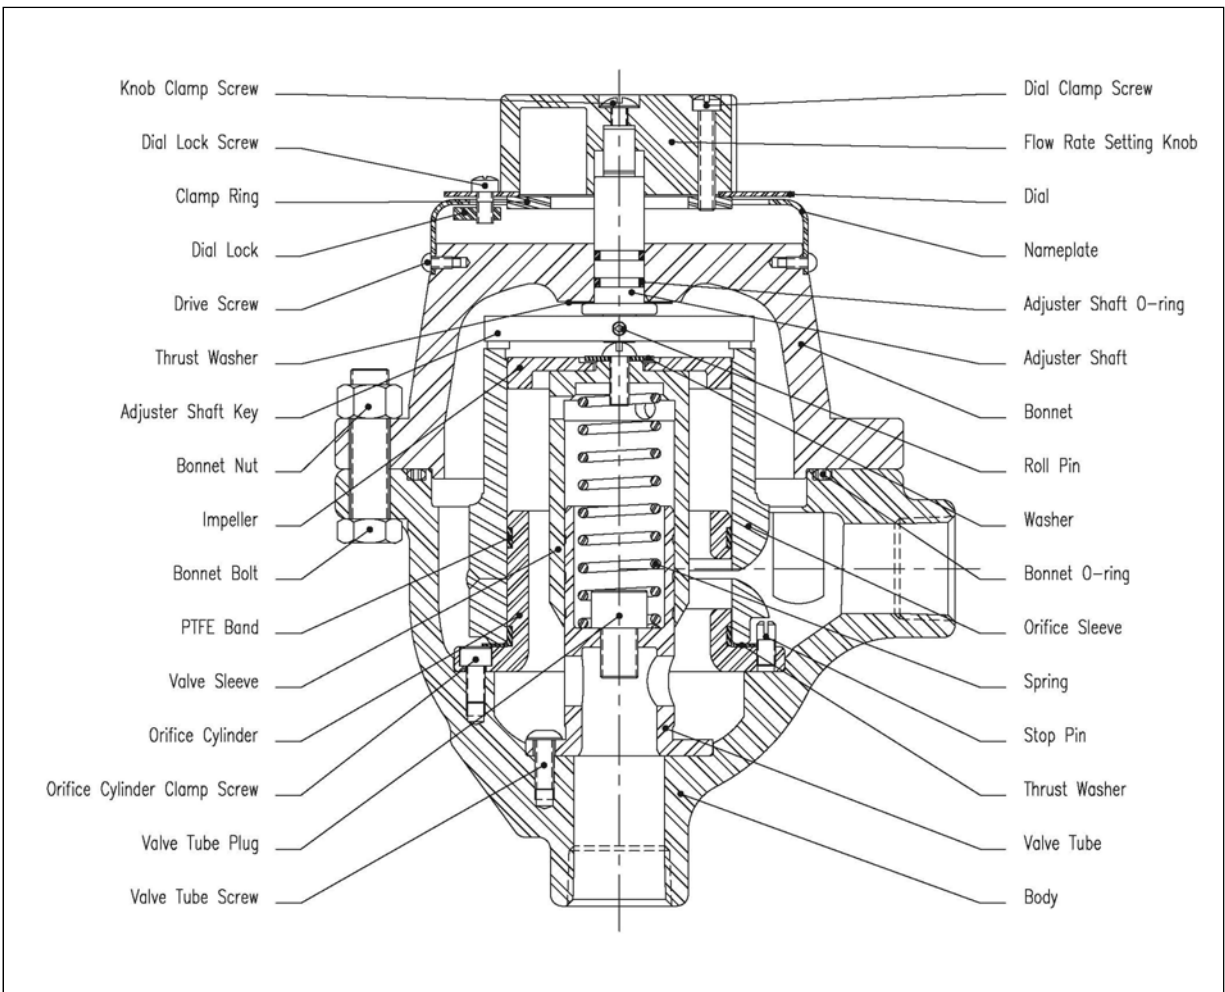

Figure 1
- d. Lower the bonnet slowly, at the same time turning the flow rate setting knob until the key on the end of the adjuster shaft fits into the slots in the orifice sleeve, and the shoulder on the lower face of the bonnet fits into the body. (Note: If the flow rate setting knob does not turn, loosen the dial lock screw. See figure 1) When properly assembled, the bonnet will seat squarely on the body all the way around. (See figure 1)
11. Replace the body O-ring then lower the bonnet slowly, at the same time turning the flow rate setting knob until the key on the end of the adjuster shaft fits into the slots in the orifice sleeve, and the shoulder on the lower face of the bonnet fits into the body. When properly assembled, the bonnet will seat squarely on the body all the way around. (See figure 1) See that the pointer is in front where the set point can be read. Replace and tighten the bonnet bolts. (See figure 4)